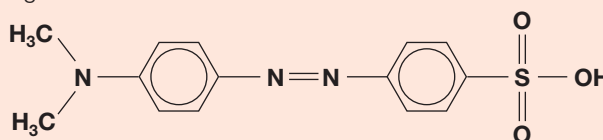

Figure 4.17 ▲
- 15 a)** Draw the structures of the diazonium compound and the amine which could be used to make the red form of the acid-base indicator, methyl orange, in Figure 4.17.